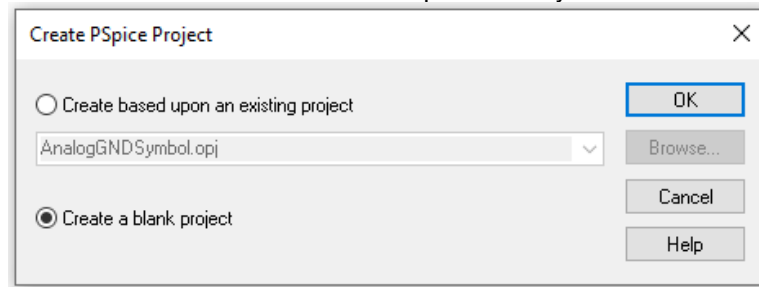

Figure 3 - Create PSpice Project Window
d) In the create PSpice project window (if you are prompted with this), select “Create a blank project” as shown in Fig.3, and click “OK”. You will have the schematic window open where you can draw a new circuit.